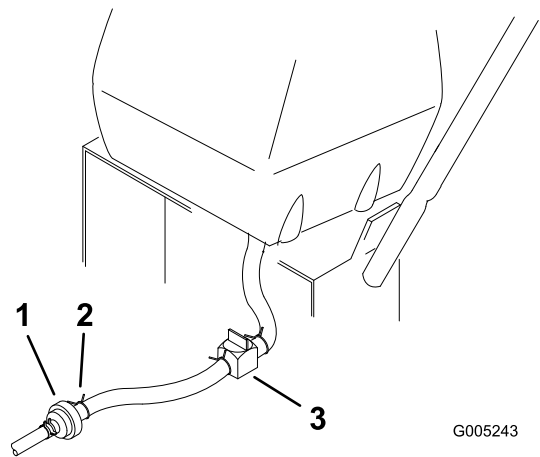

Figure 35
3. Close the fuel-shutoff valve at the fuel tank (Figure 35).
4. Squeeze the ends of the hose clamp together and slide it up the fuel line away from fuel filter (Figure 35).
5. Pull the fuel line off the fuel filter (Figure 35).
3. Close fuel-shutoff valve at the fuel tank (Figure 35).
7. Open fuel-shutoff valve at the fuel tank (Figure 35).